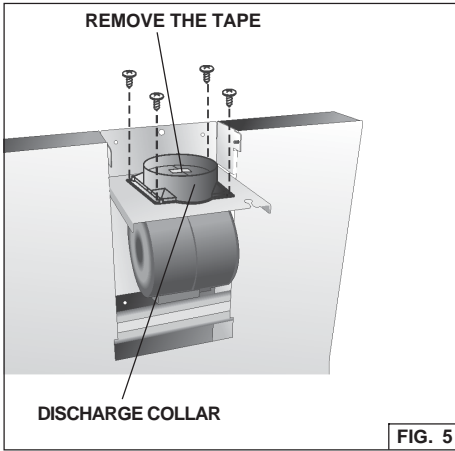

FIG. 5
2. Attach the discharge collar onto the hood (Fig. 5); it must be attached by means of 4 mounting screws (3,9x9,5 mm Pan Head).
3. Remove the tape located on the damper (Fig. 5).